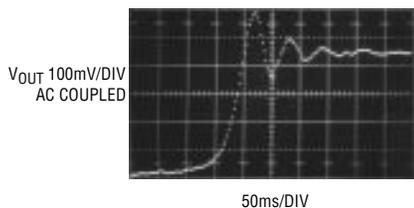
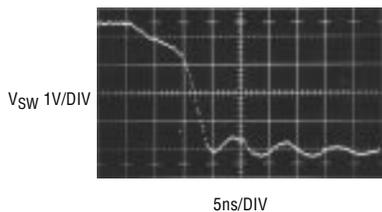
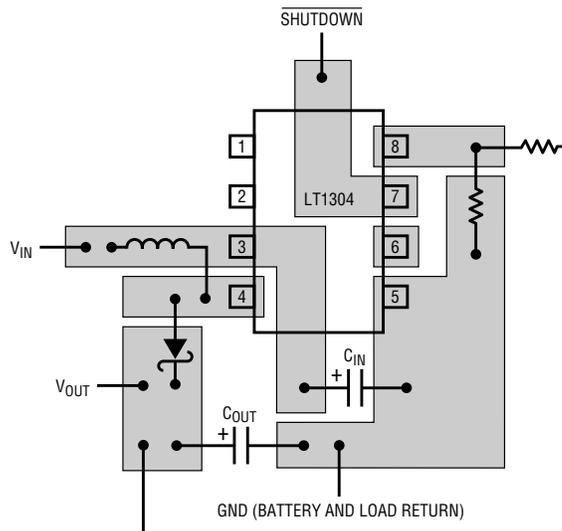

Figure 14. LT1304 Switch rise time is in the 5ns range. These types of edges emphasize the need for proper PC board layout
Figure 15. Switch fall time. Lower slope in second and third gratitudes shows effect of lead and bond wire inductance
Figure 13. Suggested layout for best performance. Input capacitor placement as shown is highly recommended. Switch trace (pin 4) copper area is minimized
The LT1304 switch turns on and off very quickly. For best performance we suggest the component placement in Figure 13. Improper layouts will result in poor load regulation, especially at heavy loads. Parasitic lead inductance must be kept low for proper operation. Switch turn-off is detailed in Figure 14¹. A close look at the rise time (5ns) will confirm the need for good PC board layout. The 200MHz ringing of the switch voltage
is attributable to lead inductance, switch and diode capacitance, and diode turn-on time. Switch turn-on is shown in Figure 15. Transition time is similar to that of Figure 14. Adherence to the layout suggestions will result in working DC/DC converters with a minimum of trouble.
1. Instrumentation for oscillographs of Figures 14 and 15 include Tektronix P6032 active probe, Type 1S1 sampling unit and type 547 mainframe.